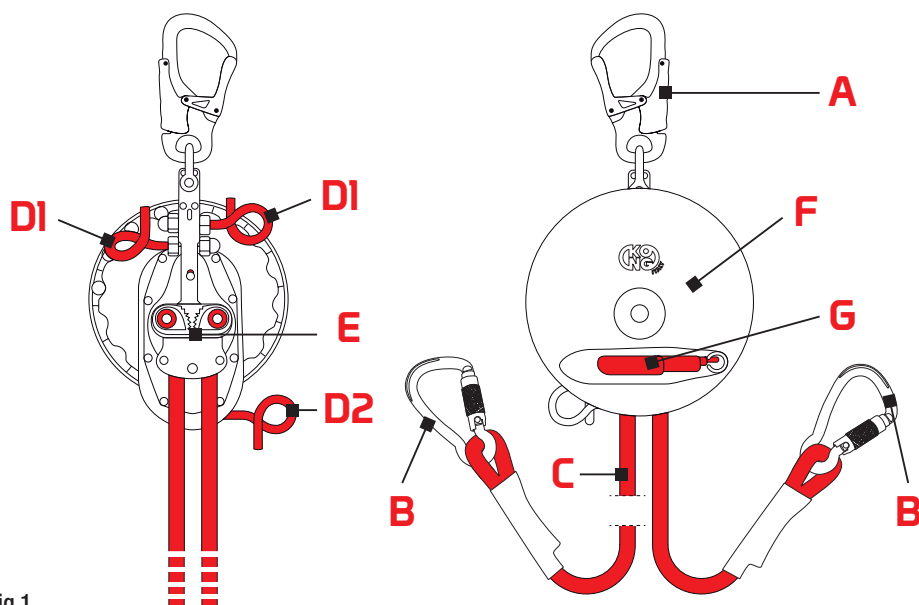

Fig.1
3.1 NOMENCLATURES OF THE PARTS (FIG. 1)
- (A) Anchor connector made in aluminium alloy certified according EN 362,
- (B) Terminal connectors made in carbon steel certified according EN 362,
- (C) Polyamide rope certified according EN 1891 class A,
- (E) Rope clamp,
- (F) Handwheel,
- (G) Crank.